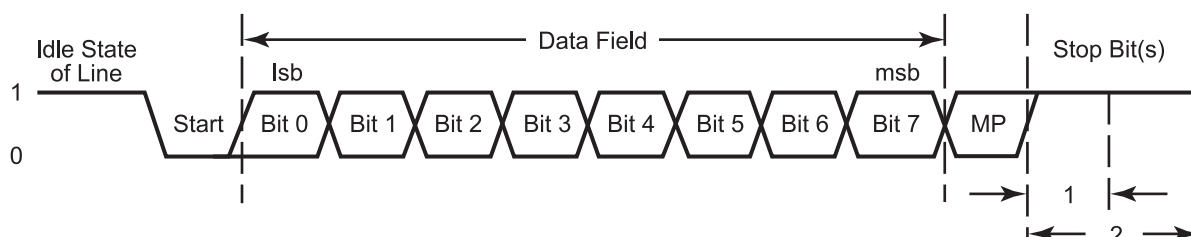

**Figure 23. LIN-UART Asynchronous MULTIPROCESSOR Mode Data Format**
The LIN-UART features a MULTIPROCESSOR (9-bit) Mode that uses an extra (9th) bit for selective communication when a number of processors share a common UART bus. In MULTIPROCESSOR Mode (also referred to as 9-bit mode), the multiprocessor bit (MP) is transmitted immediately following the 8 bits of data and immediately preceding the stop bit(s) as displayed in Figure 23.